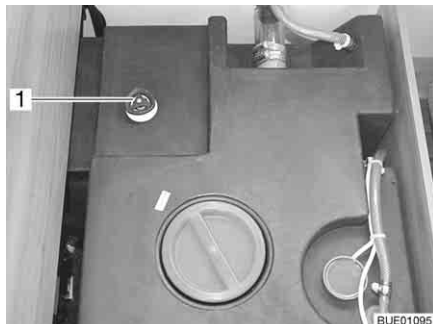

Fig. 226 Water tank with handle
- Turn the handle (Fig. 226,1) on the water tank in a clockwise direction as far as it will go.
- Turn the handle (Fig. 226,1) on the water tank in an anticlockwise direction as far as it will go. Excess water will drain away leaving 60 litres in the tank.